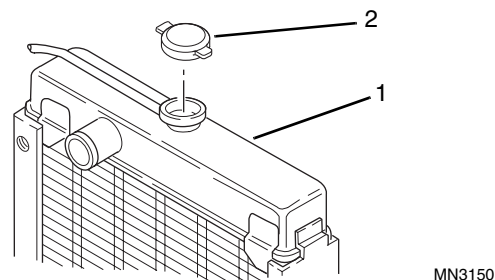

Figure 10-25 Radiator Pressure Cap
The radiator (Fig. 10-25, 1) is designed to use a pressure cap (2) to prevent the boiling of the coolant. For a 210° F (99° C) system use a 14 lb/in² (96 kPa) radiator cap. An incorrect or malfunctioning cap can result in the loss of coolant and the engine running hot.